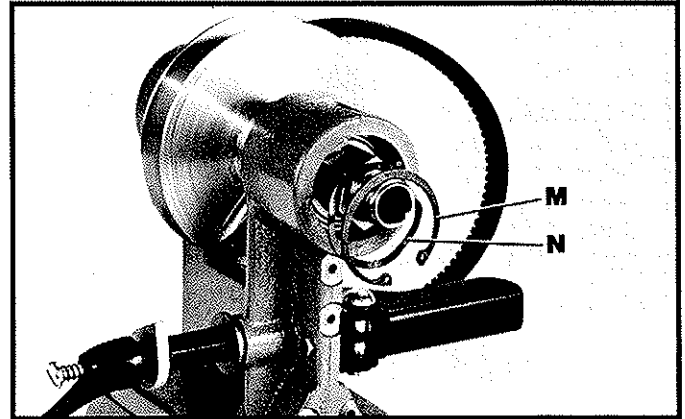

Fig. 92
9. Remove snap ring (M) Fig. 92, and spring washer (N) from inboard end of spindle.